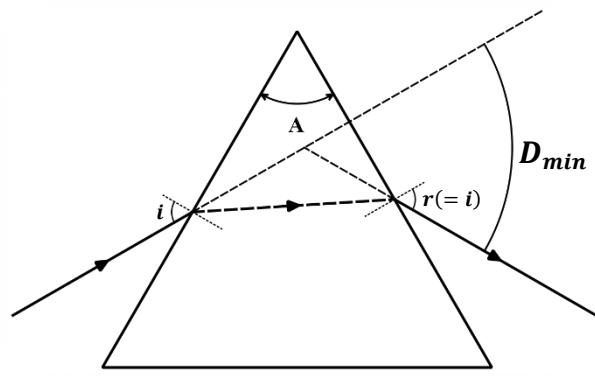

Fig. 2
- Put the prism on the prism table such that the center of the base of the prism is at the center of the prism table. Rotate the prism table so that the beam from the collimator falls on one of the refracting surfaces and emerges through the other (*fig. 2*). The spectral lines should be visible with the unaided eye. Subsequently locate the spectrum separate colored images of the slits with the telescope. Each colored slit emerges at a different angle and is focused by the telescope to a different spot. Select a particular line in the spectrum for observation and note its color and the corresponding wavelength in your observation table. Lock the platform. If necessary, adjust the entrance slit width of the collimator to sharpen the spectrum so that it is as bright as possible. Now rotate the prism table slowly in steps and each time rotate the telescope to receive the selected line at the cross wire. The telescope should come closer to the direct path. If it goes away from the direct path, rotate the prism table in the opposite direction. You cannot bring the line closer to the direct path beyond a point. As you rotate the prism table in either direction at this stage, the image will move away from the direct path. This turning point is the position of minimum deviation for that particular wavelength.